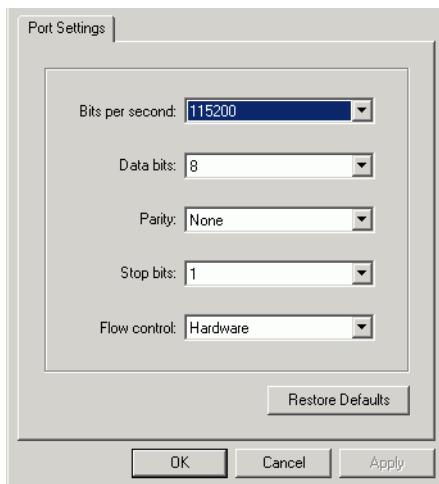

Figure 9: Port Settings dialog box
6. Ensure that the **Connect using** field displays **COM1** or **COM2** (depending on the serial communication port connection to the switch), and click **OK**. The Port Settings dialog box displays (Figure 9).